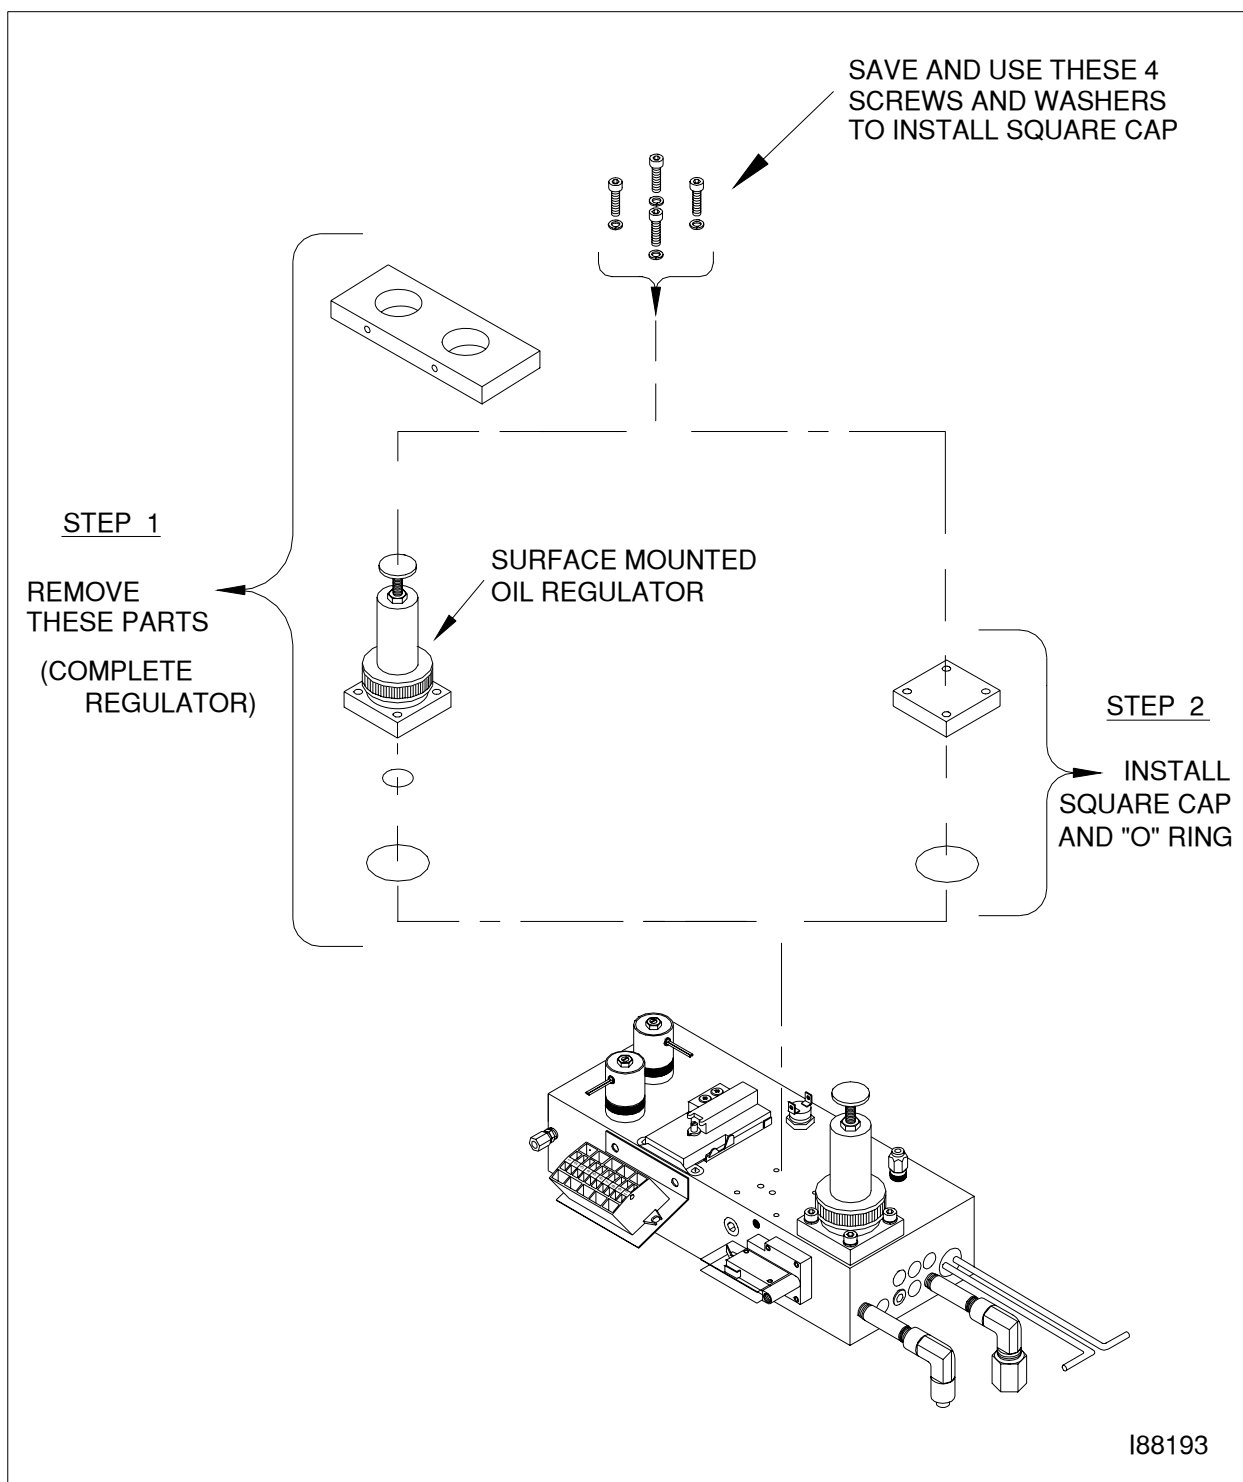

Figure 5B - Detail of Heater Block with Surface-Mounted Oil Regulator
5. Refer to Figure 5B. Use a 5/32" Allen wrench to remove the four (4) bolts and washers holding the surface-mounted oil regulator in place, then carefully remove the oil regulator.